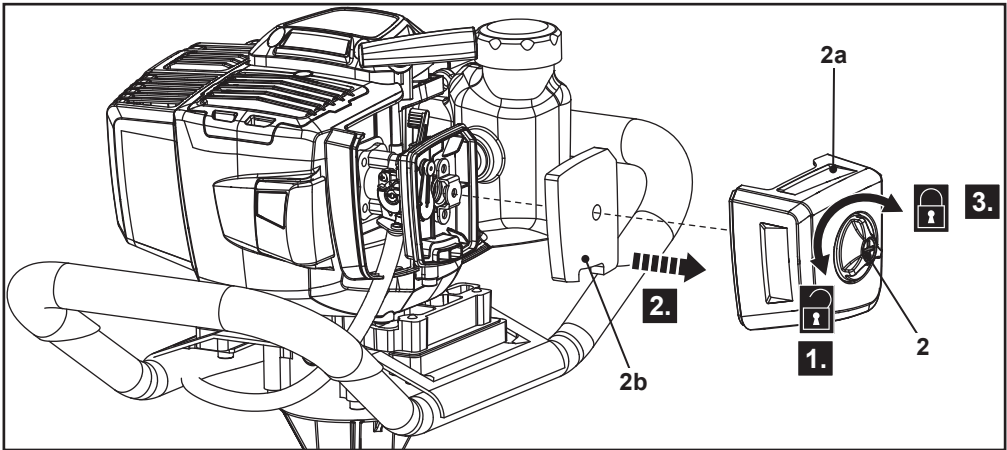

Fig. 12
- Loosen the fixing knob (2) anticlockwise and remove the air filter cover (2a) to reach the air filter (2b) (Fig. 12, step 1).
- Remove the air filter (2b) (Fig. 12, step 2) and tap it on a solid surface to remove dust.
5. Turn the fixing knob (2) clockwise to fix the air filter cover (2a) (Fig. 12, step 3).